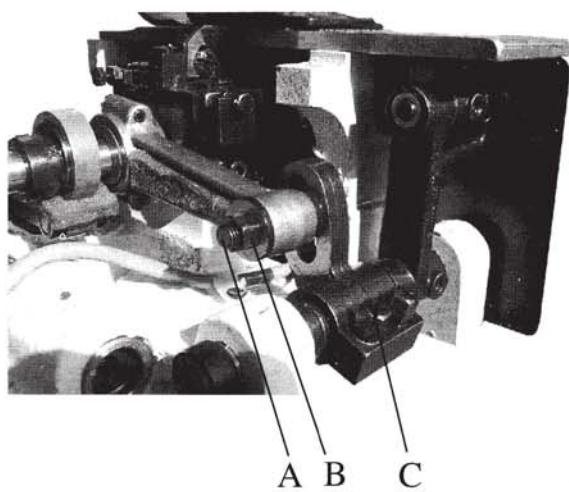

图9 Fig.9
送料牙在针板牙槽内的两侧面间隙不对称时，拧松牙架座（图9, C）两只螺钉(D)，左右移动牙架座至要求位置后再拧紧螺钉(D)。
If feed dog are not in the center in the throat plate slots, Loosen screws rear in the feed locker (C, Fig. 9), move the feed locker right or left as required. Then retighten screws(D).
针距长短的调节，是通过开针档（图9， C）扇形槽中的针距调节螺钉（A）的上下移动来实现的。下降螺钉（A）使针距加大，升高则缩短针距。调节时拧松螺母（B）、上下移动螺钉（A）至需要的针距后再固紧螺母（B）。（自动型式的机器需卸下罩壳时再调节）
The length of the stitch can be adjusted by raising or lowering the stud(A)in th segment slot of the feed locker (C, Fig. 9). Lowering the stud will shorten the stitch. After loosening nut(B), Stud(A) can be movedaccordingly. When the desired stitch length is obtained, Retighten nut(B). (For automatic style machines the cloth plate should be remoedo to adjust)